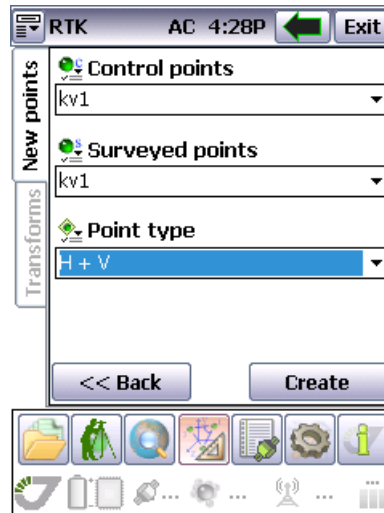

Figure 7-2. New points tab
5. Press  button to add new identical point from control and surveyed points (Figure 7-2).